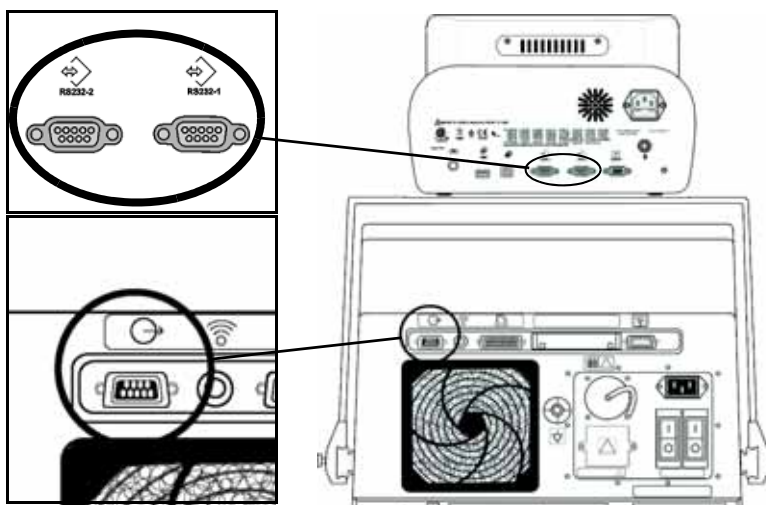

Figure 13-44: RS-232 Communication Ports for the Monitor and the Ventilator
2. Attach one end of the RS-232 serial communications cable to the RS-232 port 1 or 2 on the back of the respiratory profile monitor. See Figure 13-44.
3. Attach the other end of the RS-232 serial communications cable to the serial communications port on the back of the ventilator. See Figure 13-44.